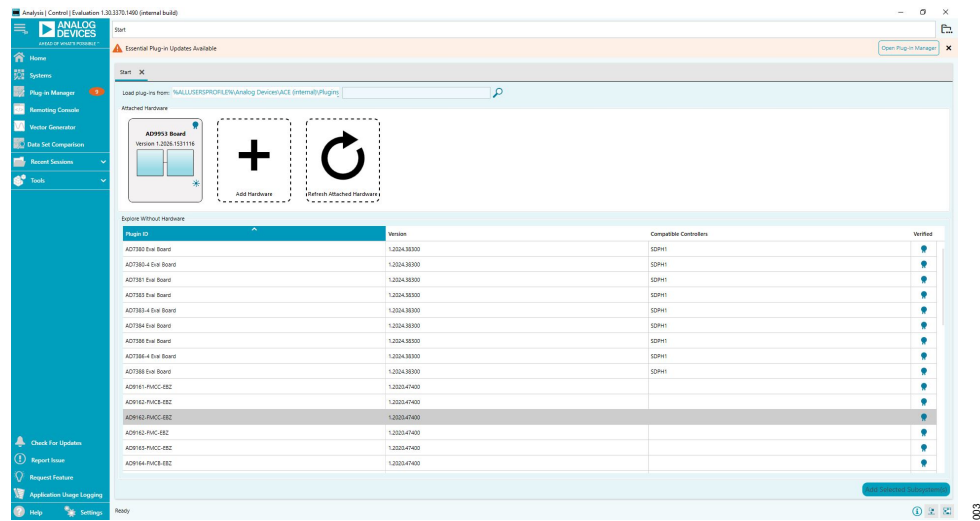

Figure 3. ACE Main Window, Attached Hardware (AD9953 Evaluation Board)
2. Under the **Select Device and Connection** tab within the **ACE Software**, select the **AD9953 Board** that appears within the **Attached Hardware** section (see Figure 3).
- ware section appears in the **ACE Software** GUI, as shown in Figure 3.